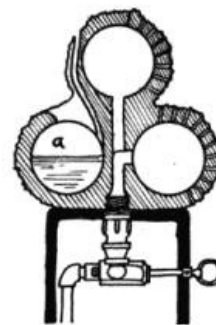

FIG. 41. Gas logs.
81. Illuminating Flame and Bright Metal Reflector Heaters. These heaters are used with manufactured gas. They burn with an illuminating flame since there is no device for mixing air with the gas as it enters the stove. The bright metal reflector not only makes an attractive stove, but reflects the heat out into the room. Some stoves are made with tips of aluminum or other non-corrosive metal over the openings in the burner (Fig. 40). Gas logs are a type of gas heaters used in fireplaces (Fig. 41).